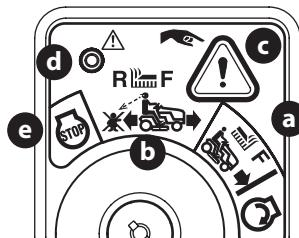

Figure 23
2. Turn the key from the NORMAL MOWING MODE  (a) position to the REVERSE CAUTION MODE  (b) position of the ignition module (Figure 23).
3. Press the REVERSE PUSH BUTTON  (c) at the top, right corner of the ignition module. The red indicator light (d) at the top, left corner of the ignition module will be ON while activated (Figure 23).
5. Always look down and behind before and while backing to make sure no children are around. After resuming forward motion, return key to the NORMAL MOWING MODE  (a) position (Figure 23).
6. The REVERSE CAUTION MODE (b)  will remain activated until (Figure 23 on page 19):